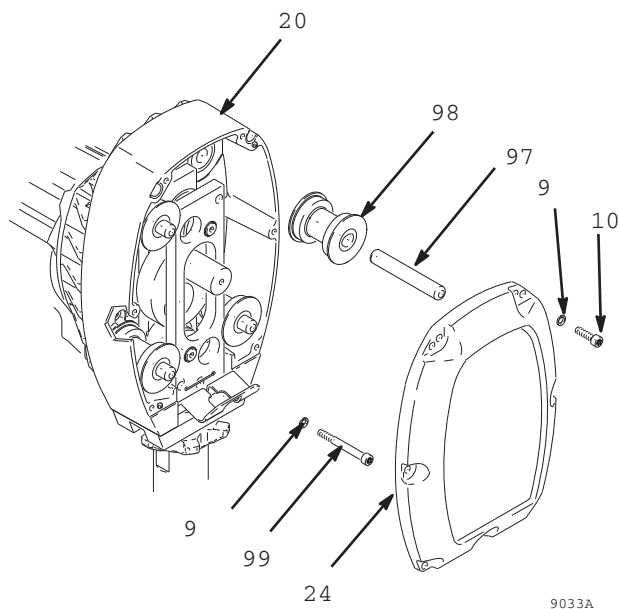

FIG. 1
2. Remove six cap screws (10) lock washers (9) and cover assembly (24) (FIG. 1).
3. Remove two screws (99) and washers (9).
4. Remove four cap screws (10) lock washers (9) from drive housing (20).
5. Lightly tap around drive housing (20) to loosen drive housing. Pull drive housing straight off pinion housing. Be prepared to support gear cluster (18), which may also come out.